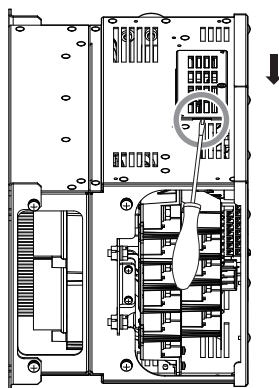

Figure 4.36 Removing the CN19 Connector Cover
3. Insert a straight-edge screwdriver into the opening as shown in Figure 4.36, then remove the CN19 connector cover by sliding it as shown in Figure 4.36.